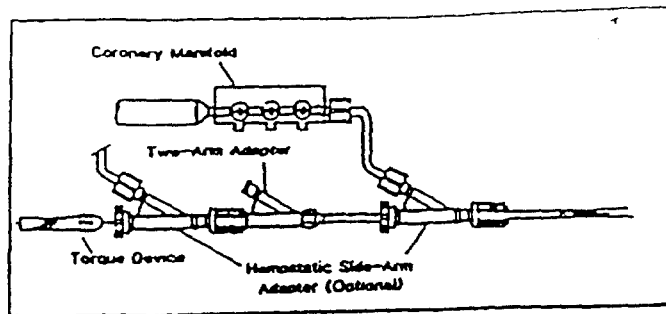

Figure 3 Connecting a second hemostatic side arm adapter and a guide wire torque device. Advancing the Oracle Micro to the tip of the guide catheter.
5. Prior to inserting the Oracle Micro catheter into the guiding catheter; join a second hemostatic side-arm adapter to a coronary manifold with a short connecting tubing (Figure 3). Flush, and fill the side-arm with normal saline as previously described in Step 2. Connect the hemostatic side-arm adapter to the guide wire port of the three-arm adapter of the dilatation catheter, carefully passing the guide wire through the hemostatic valve. Flush, and fill the inner member lumen of the catheter with normal saline. (Optional: The second side-arm adapter, to the guide wire port, may be removed to allow for increased movement of the guide wire.) Loosen the thumb screw of the adapter, and open the saline stopcock on the manifold so that fluid drips from the thumbscrew. Position the guide wire so that it is inside the dilatation catheter as far as it will go. Tighten the thumb screw so that the valve closes firmly around the guide wire, and close the saline stopcock on the manifold. Pull the negative pressure to collapse the balloon with the inflation device, and slide the peel-away introducer over the distal tip of the Oracle Micro catheter. Shape the guide wire tip into the desired configuration and retract the guide wire back into the introducer for protection during insertion into the guiding catheter.
7. Re-tighten the fitting, after the dilatation catheter has been inserted at least 30 to 40 cm into the guiding catheter, to create a seal around the dilatation catheter that does not inhibit movement of the catheter. This will allow continuous recording of proximal coronary artery pressure. Advance the dilatation catheter and guide wire to the tip of the guiding catheter (Figure 3).
Slip the Torque Device over the end of the guide wire, and tighten it securely to the mandrel (Figure 3). Keep the valve of the guide wire hemostatic side-arm adapter closed when the guide wire is in the catheter. When the valve is appropriately closed, intentional movement of the wire is not inhibited.